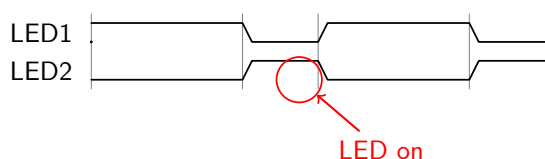

Figure 6: On main loop
3. Search for while (1) in main.c. Add the HAL commands as shown below. The on board and off board LEDs will blink as shown in figure 6